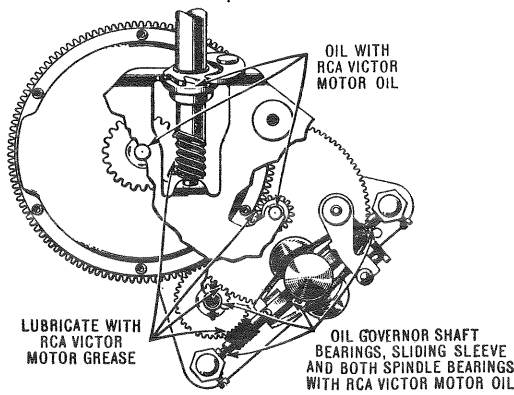

Figure 1—Lubrication Diagram of Model 2-65
**Motor.** Figure 1 shows a view of the motor with the top plate removed. Before lubricating the parts shown in this illustration, a thorough cleaning with carbon tetra-chloride (Carbena) or gasoline is necessary. If necessary disassemble the entire motor for such cleaning.